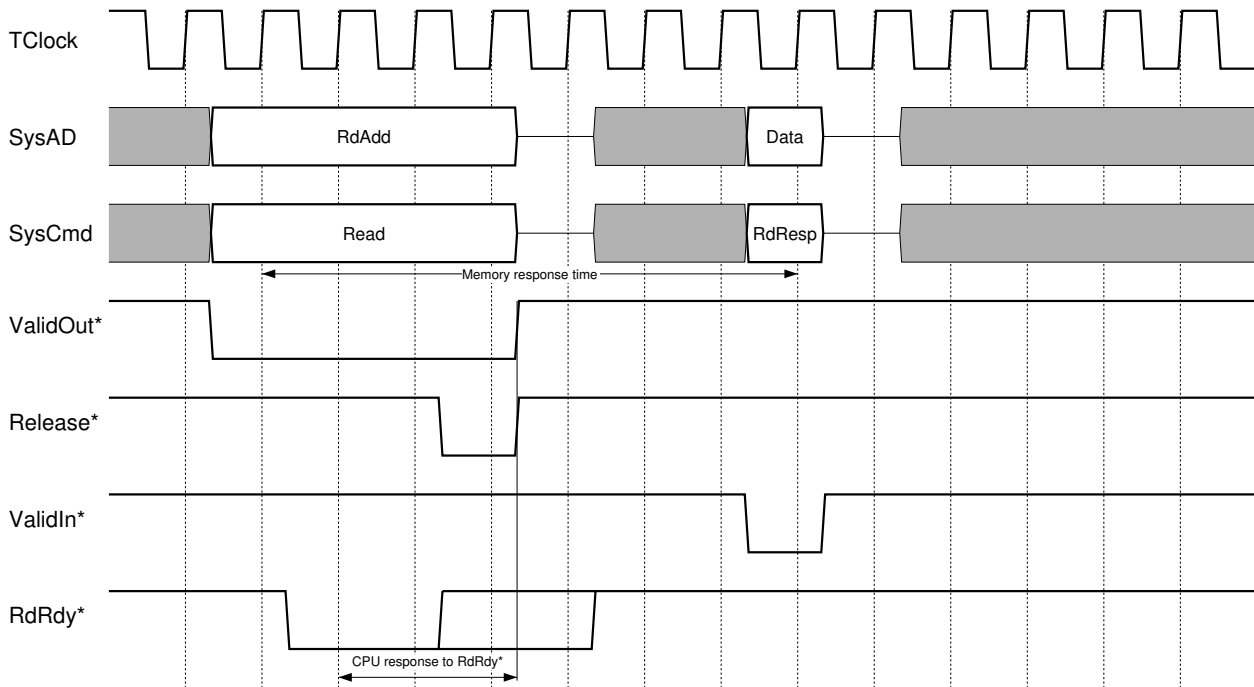

Figure 6.1 Structure of a read cycle
Figure 6.1 shows a read cycle slowed down by the use of *RdRdy\**. This is not the simplest case, but most implementations will use it:
#### Notes on Figure 6.1
- *Address acknowledged*: the interface logic acknowledges the request by asserting *RdRdy\**. Because of the way the CPU samples and pipelines its inputs and outputs, the CPU's deassertion of *ValidOut\** will not occur until three clocks after *RdRdy\** is asserted (shown on Figure 6.1 as "CPU response to *RdRdy\**"). This means that the address is valid for four clock periods, so need not have hold time problems sampling it.